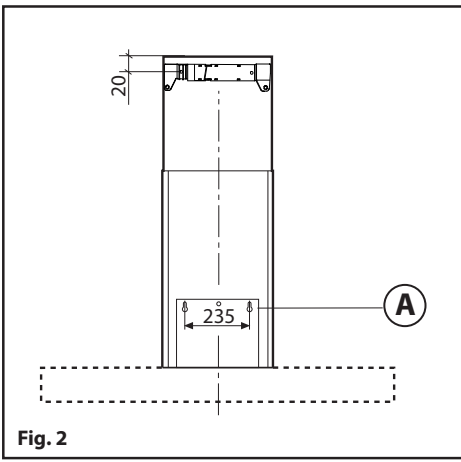
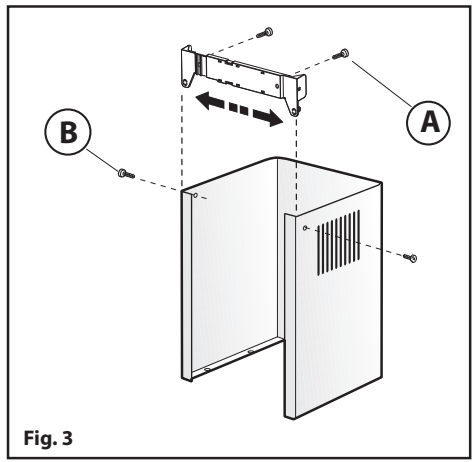

Fig. 2
Fig. 3
- Drill the holes **A** respecting the distances indicated (**Fig.2**). - Fix the appliance to the wall and align it in horizontal position to the wall units.
- Adjust the width of the support bracket of the upper flue (**Fig.3**).
- Then fix it to the ceiling using the screws **A** (**Fig.3**) in such a way that it is in line with your hood and respecting the distance from the ceiling indicated in **Fig.2**.
- Fix the lower flue to the hood using the screws **B** provided (**Fig.5**), extract the upper flue up to the bracket and fix it with the screws **B** (**Fig.3**).